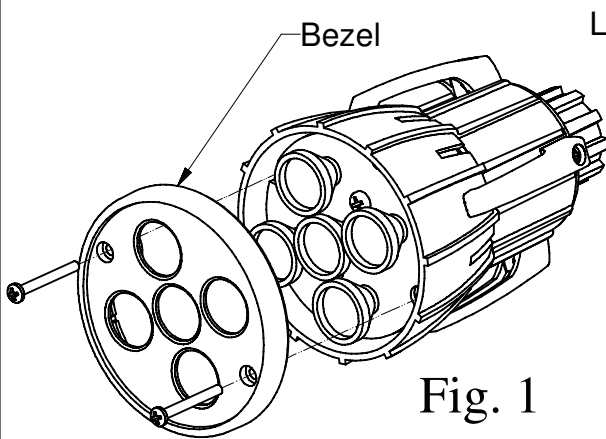

Fig. 1
- 1) Remove "Bezel" by removing 2 screws. (See Fig. 1)